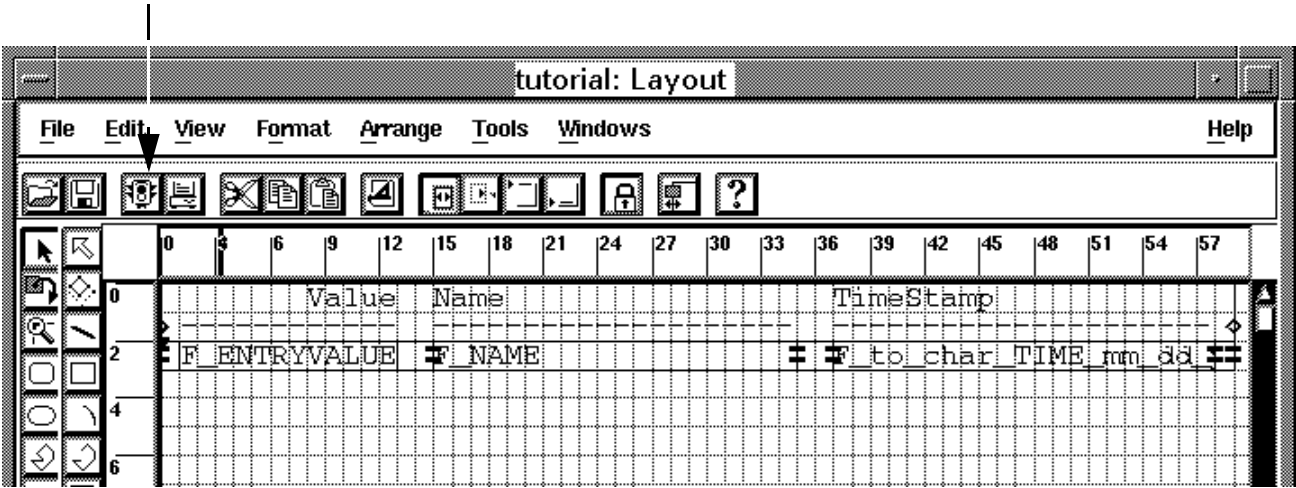

Figure 3-25. Report Layout Window
- This opens the Reports Layout window in the tabular format, Figure 3-25.
21. To preview the report, click on the Run Report icon which looks like a traffic light, Figure 3-25.